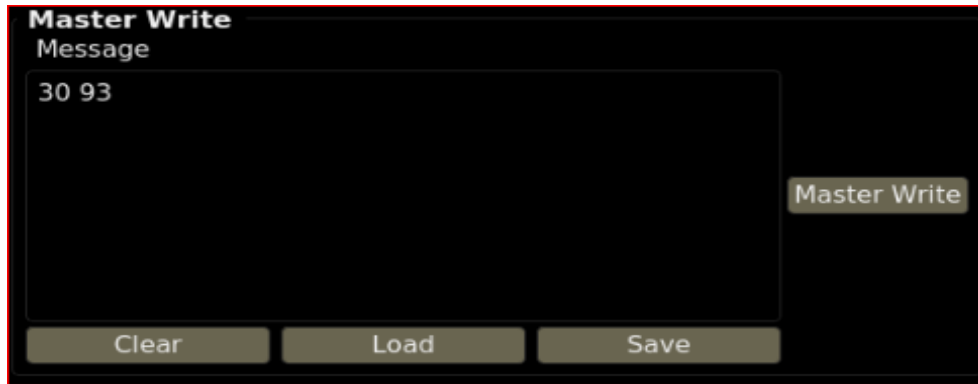

Figure 6.18. I2C Master Write to Write the Register Address
5. Enter the register address in the Master Write message box as shown in below Figure 6.18 to set the current register address. For an example, to read from 0x3093 register address, enter **30 93** in the message box and click the **Master Write** button.